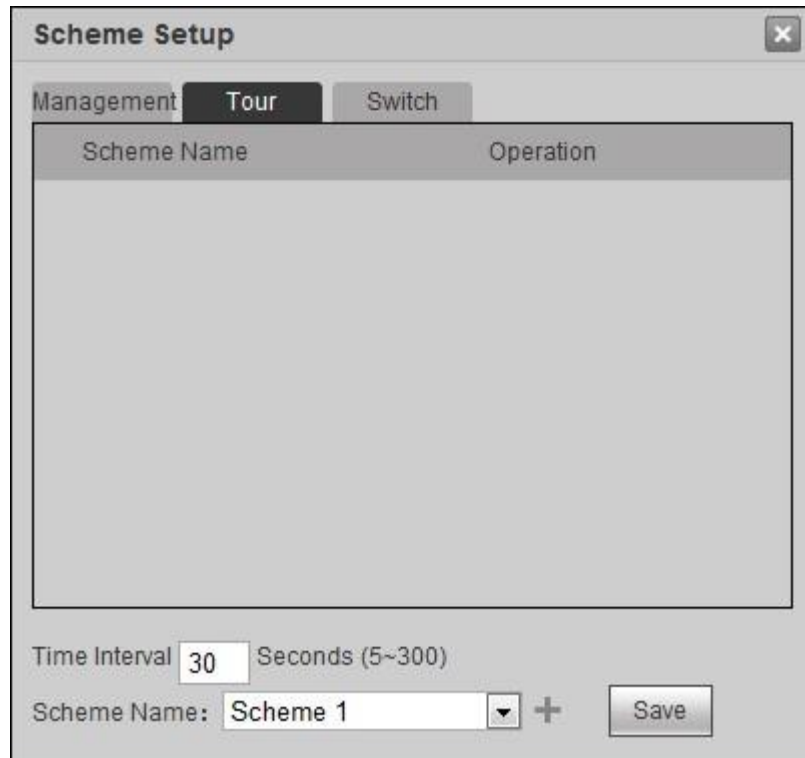

Figure 4-14
Step 1 Select “Tour” tab. The system displays “Tour” interface, as shown in Figure 4-14.